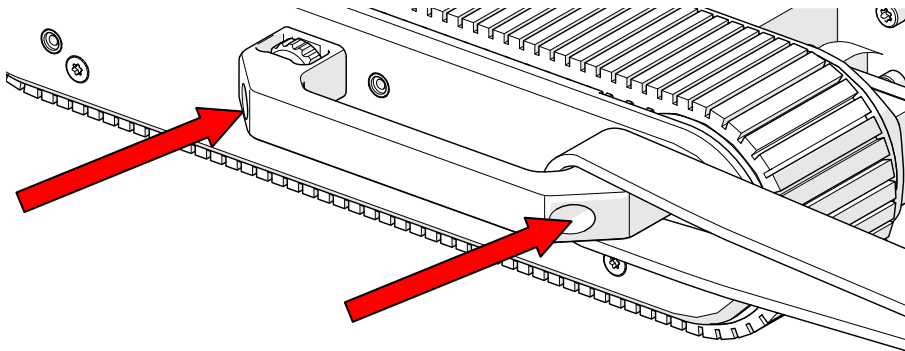

Fig. 44 - Align handle with screw holes
3. Reinstall the handles on both sides (Fig. 44).